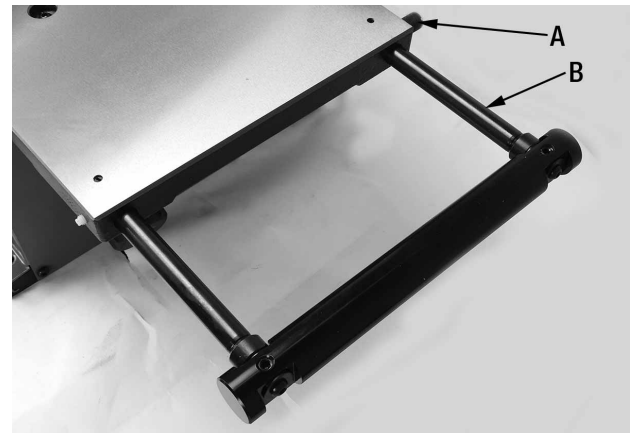

FIGURE 14
- 1) Loosen the lock knob (A) Fig.14 at the back of the table and pull out the table extension (B) as far as desired. Retighten lock knob. Repeat for the other end of the table.